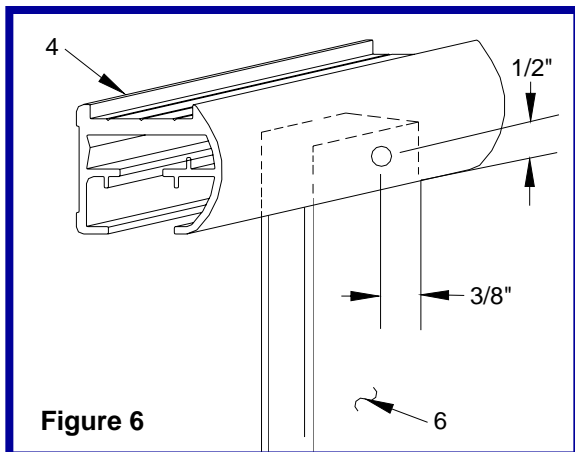

Figure 6
- Place header (4) over wall channels (6) **(See Figure 6)**.
- Secure with two #6x $1/2$ " PH SMS screws (14).